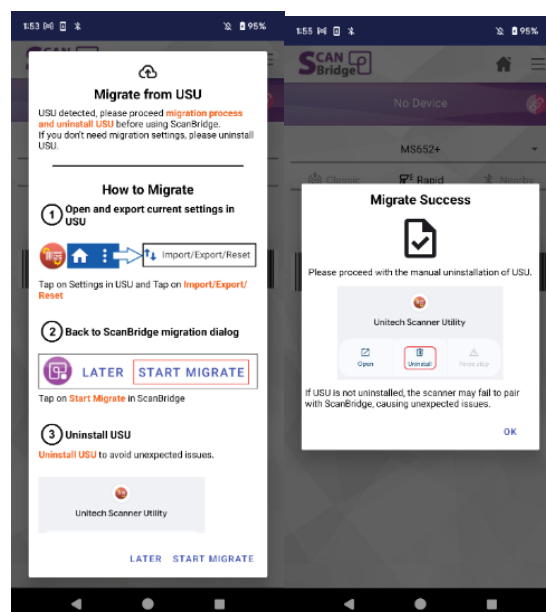

Figure 9.5.2
2. Launch ScanBridge and tap on **START MIGRATE** (Figure 9.5.2).